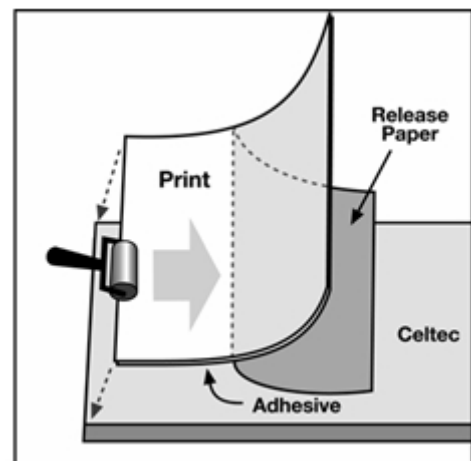

Figure 5i
7. Gradually remove the liner while pressing closely with a had roller or a squeegee to eliminate any air bubbles until the entire print has been laminated (Figure 5i).